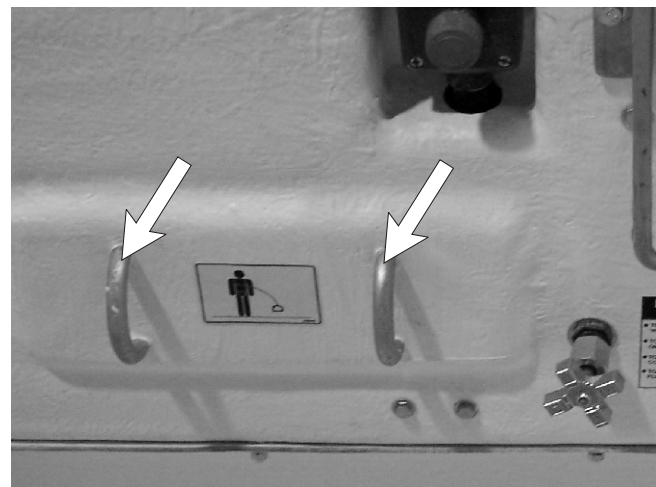

Figure 9.12 - Lanyard Anchor Points
3. Attach your safety harness to the lanyard anchor points in the basket (see Figure 9.12).